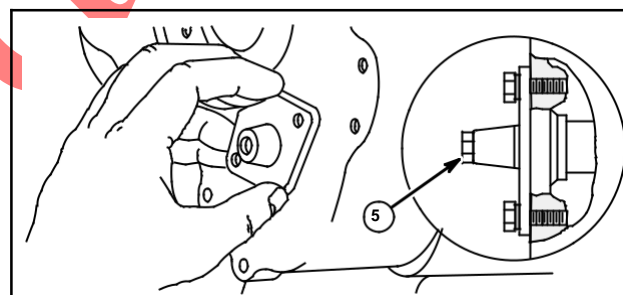

Fig. 20
6. Install long cam gear bolt (5) 5-1/2" (140.00 mm) finger tight to prevent loss of camshaft, Fig. 20.